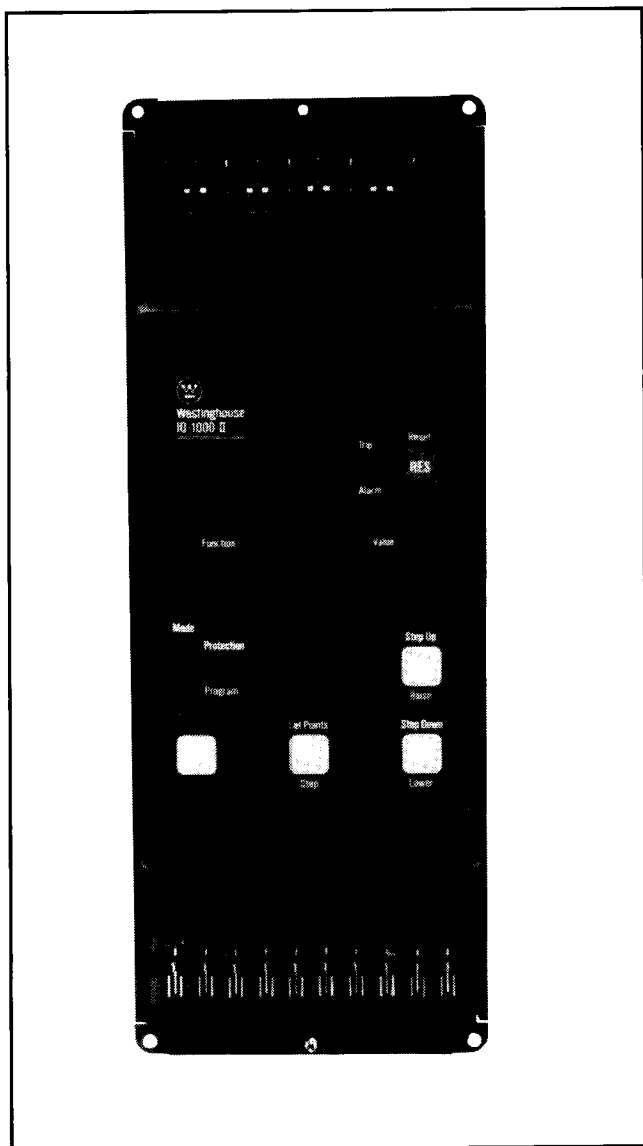

Fig. 4 Drawout Case with Front Cover Removed
Step 2 – Loosen the knurled screw at the bottom of the drawout case front cover, swing the bottom of the cover away from the drawout case and lift off the front cover. See Figure 4.